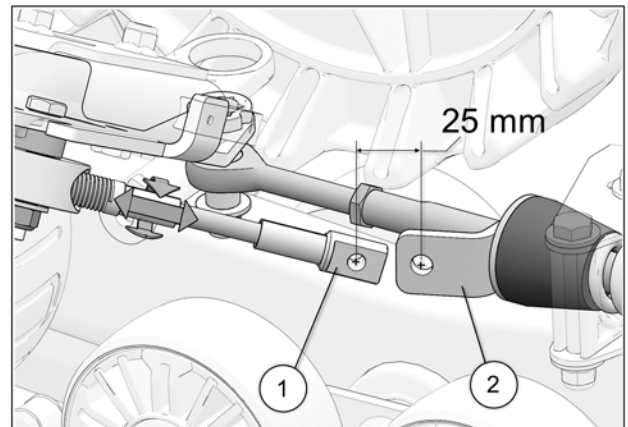

Fig. 29
19. Turn the vehicle's steering wheel to its maximum point of travel on the left. While maintaining pressure on the steering wheel, turn threaded rod to adjust length of cable. See Fig. 29
20. Position cable end hole (1) 25 mm [ 1 in. ] short of support plate (2) mounting hole. See Fig. 29